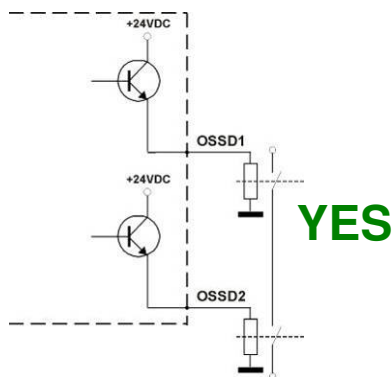

Fig. 22 – Correct OSSD signal load connection
- The safety contacts of OSSD1 and OSSD2 may not be connected in series or in parallel, but must be used separately (Fig. 22).